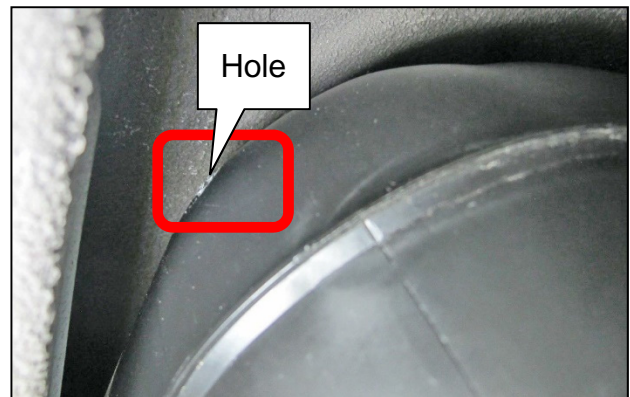

Figure 7
- Inspect the top left front corner of the fuel tank for a hole or any drill bit scratches/scuffing (Figure 7 and Figure 8).